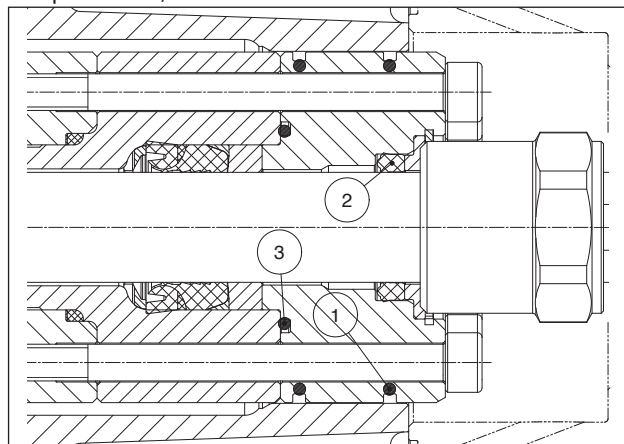
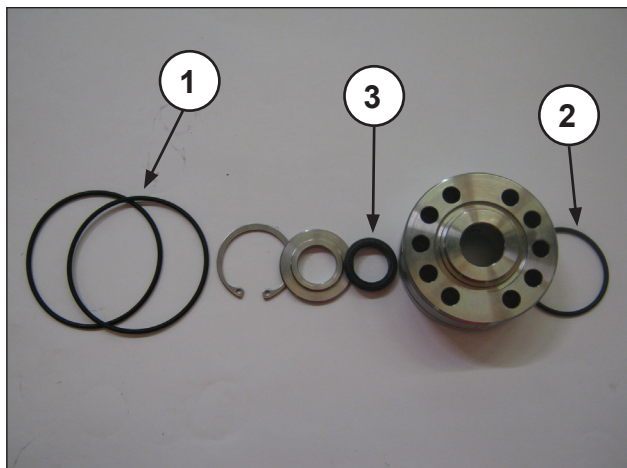

Fig. 141
Fig. 142
Install the seal support unit (Fig. 141 and Fig. 142) replacing components ①, ② and ③.